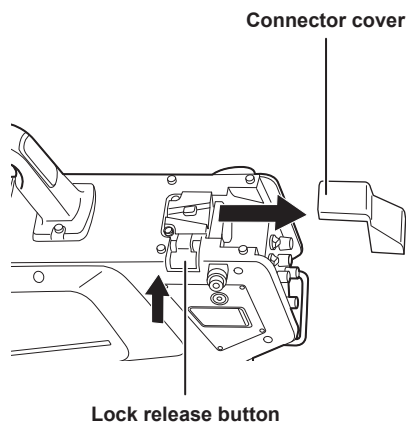

Fig. 1
- 2 Press the lock release button on the camera and remove the connector cover. (Fig. 1)